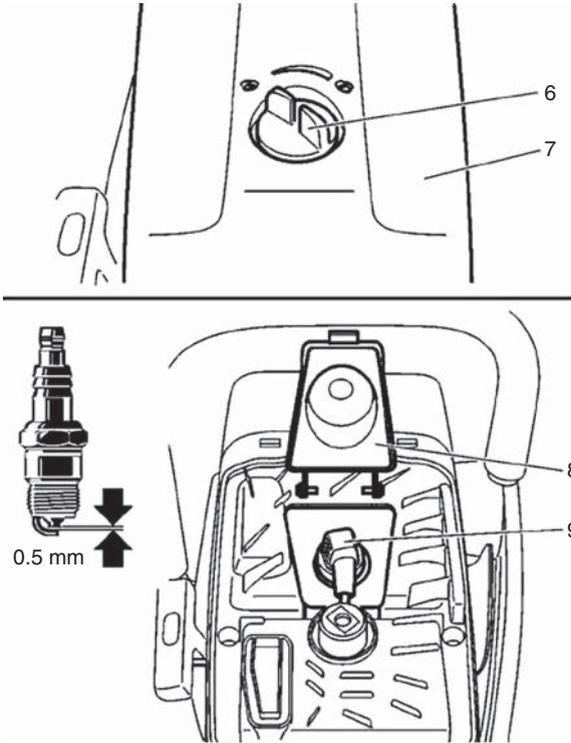

FIG. 2-1. Narrow spark-plug gaps are the norm for small engines. In the case of this Wacker Neuson chainsaw, the 0.5-mm gap translates as 0.013 in.
- *Spark plug* Begin by replacing the spark plug with a new, or known-good, plug of the type recommended in the operator's manual. This action will correct 90% of engine malfunctions. Gap to specification, which for most handheld engines is 0.016 in. and for larger units 0.025 in. (Fig. 2-1). A cam-type gauge gives less ambiguous readings than a conventional, flat-blade feeler gauge (Fig. 2-2).